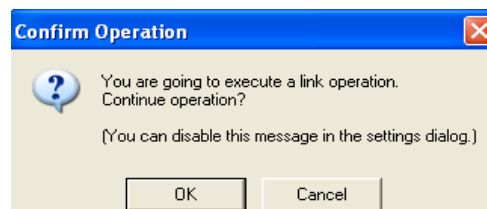

Figure 94: Conformation Message after Drag and Drop
- 4) If no link exists between selected objects, the new link of selected type is created. If link already exists between selected objects (and also for MCM-projects when the extended effectivity on the relation and the selected modstatement extended effectivity is overlapping), the **Common Browser Component: Information** dialog come up with objects that already have same link type. Please refer to the Figure 94.